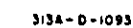

Figure 5-10. Troubleshooting Tree.
5-33. Since the 313A has two modes of operation, the malfunction can readily be isolated to one of three areas. Table 5-5 and Figure 5-10 will help to isolate the malfunction to a particular area.
5-34. The Troubleshooting Tree (Figure 5-10) when used in conjunction with the functional block diagram (Figure 7-3) and schematic diagrams (Figure 7-4 through 7-9) will greatly simplify troubleshooting the Model 313A. To use the troubleshooting tree, begin at ① and continue in numerical sequence according to the results (true or false) of the checks indicated on the troubleshooting tree. If any test fails refer to the schematic diagrams and utilize the voltage levels to aid in determining the cause of failure.